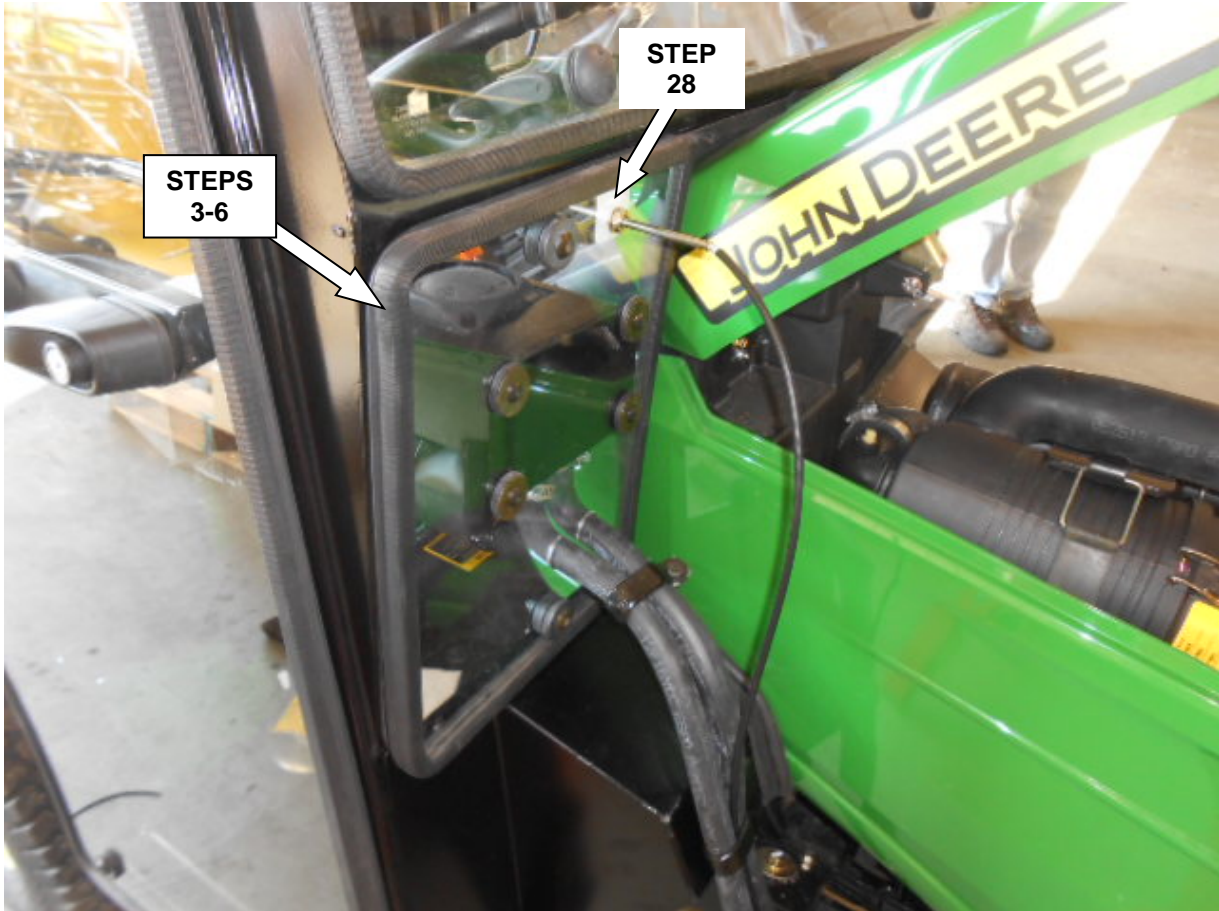

Figure 3
4. Install seals onto new window supplied with heater kit (**Figure 3**).
5. Re-install window with seals onto lower RH front cab location (**Figure 3**) re-using window hardware.
28. Apply push/pull decal to inside of RH front window (**Figure 3**).